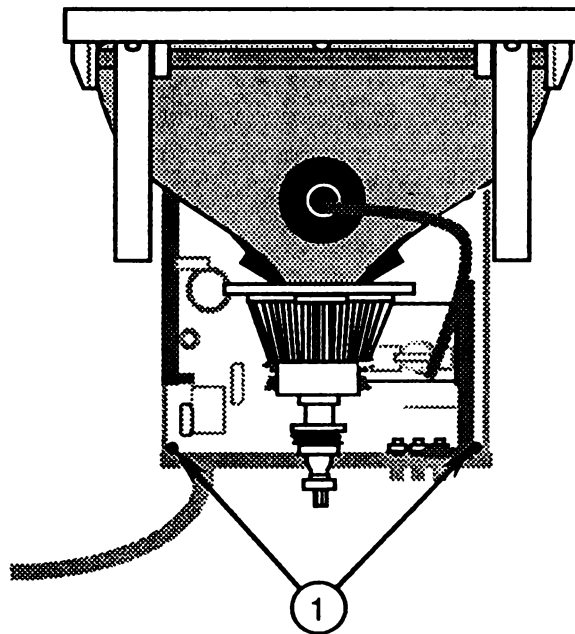

FIGURE 26
7. Replace the two screws (Figure 26, #1) that secure the back panel to the main logic PCB.